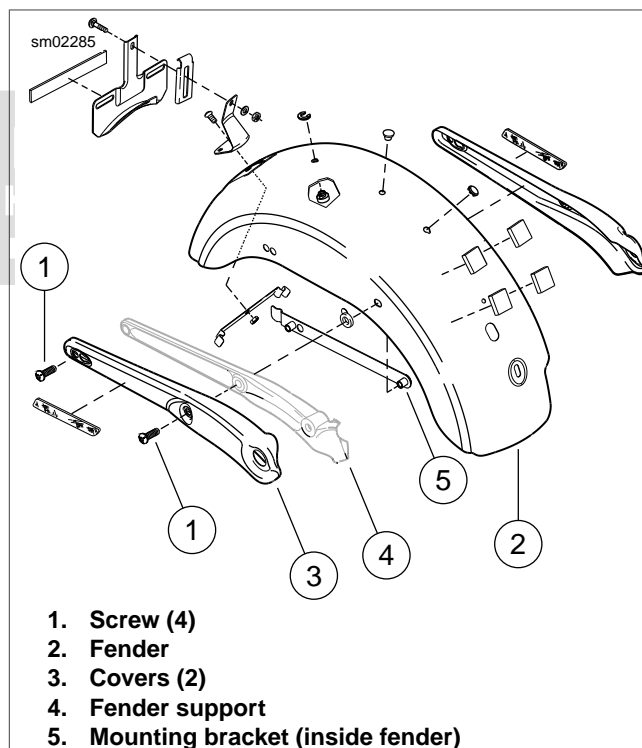

Figure 2-110. Rear Fender (FXD, FXDC, and FXDL)
2. See Figure 2-110. Remove screws (1) that hold fender in place and carefully remove fender and covers (3).
2. See Figure 2-110. Apply LOCTITE THREADLOCKER 243 (blue) to the threads of screws (1). Place fender and covers (3) into position. Tighten screws (1) to 12-18 ft-lbs (16.3-24.4 Nm).